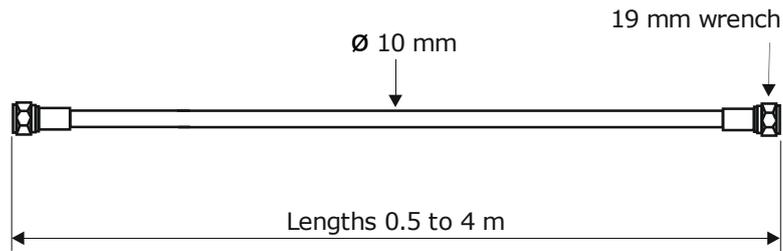

Figure 3-17:
**Version 2:** It consists of a single HF-cable whose ends are terminated by an HF-connector (N-type). Available lengths: 0.5, 1, 1.5, 2, 2.5, 3, 3.5 and 4 m (see Figure 3-17).